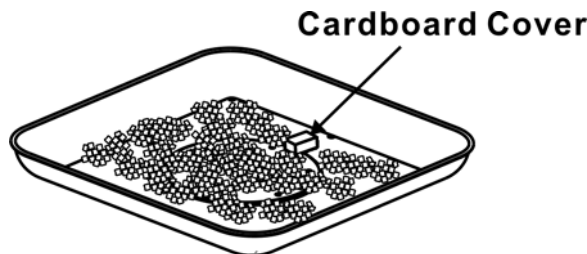

Figure 10
11. Remove the cardboard cover from the ignition well as shown in Figure 10.